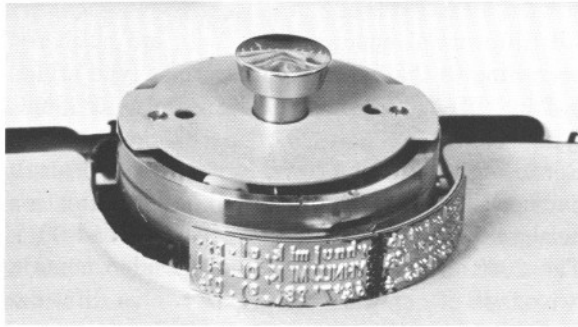

Figure 8
The anvil (22) will hold two type fonts, one in printing position (*toward carriage*) and the other in reserve position (*toward keyboard*). Push the **type change lever (1)** forward to raise anvil. Place a type font (nub of bushing down) on top of machine (Figure 8).